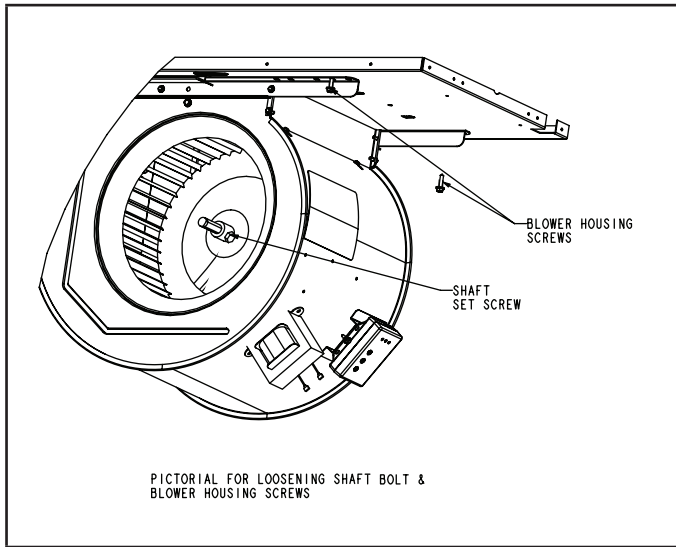

Figure 1
- 3 - Remove two screws securing the blower housing to the blower deck and slide blower-motor assembly out of unit. (see figure 1)
- 5 - Loosen motor shaft set screw and remove all motor mount leg screws. (see figure 1)
- 10 - Slide blower-motor assembly back into the unit. Secure blower housing back on to the blower deck using screws removed in step 3. (see Figure 1)